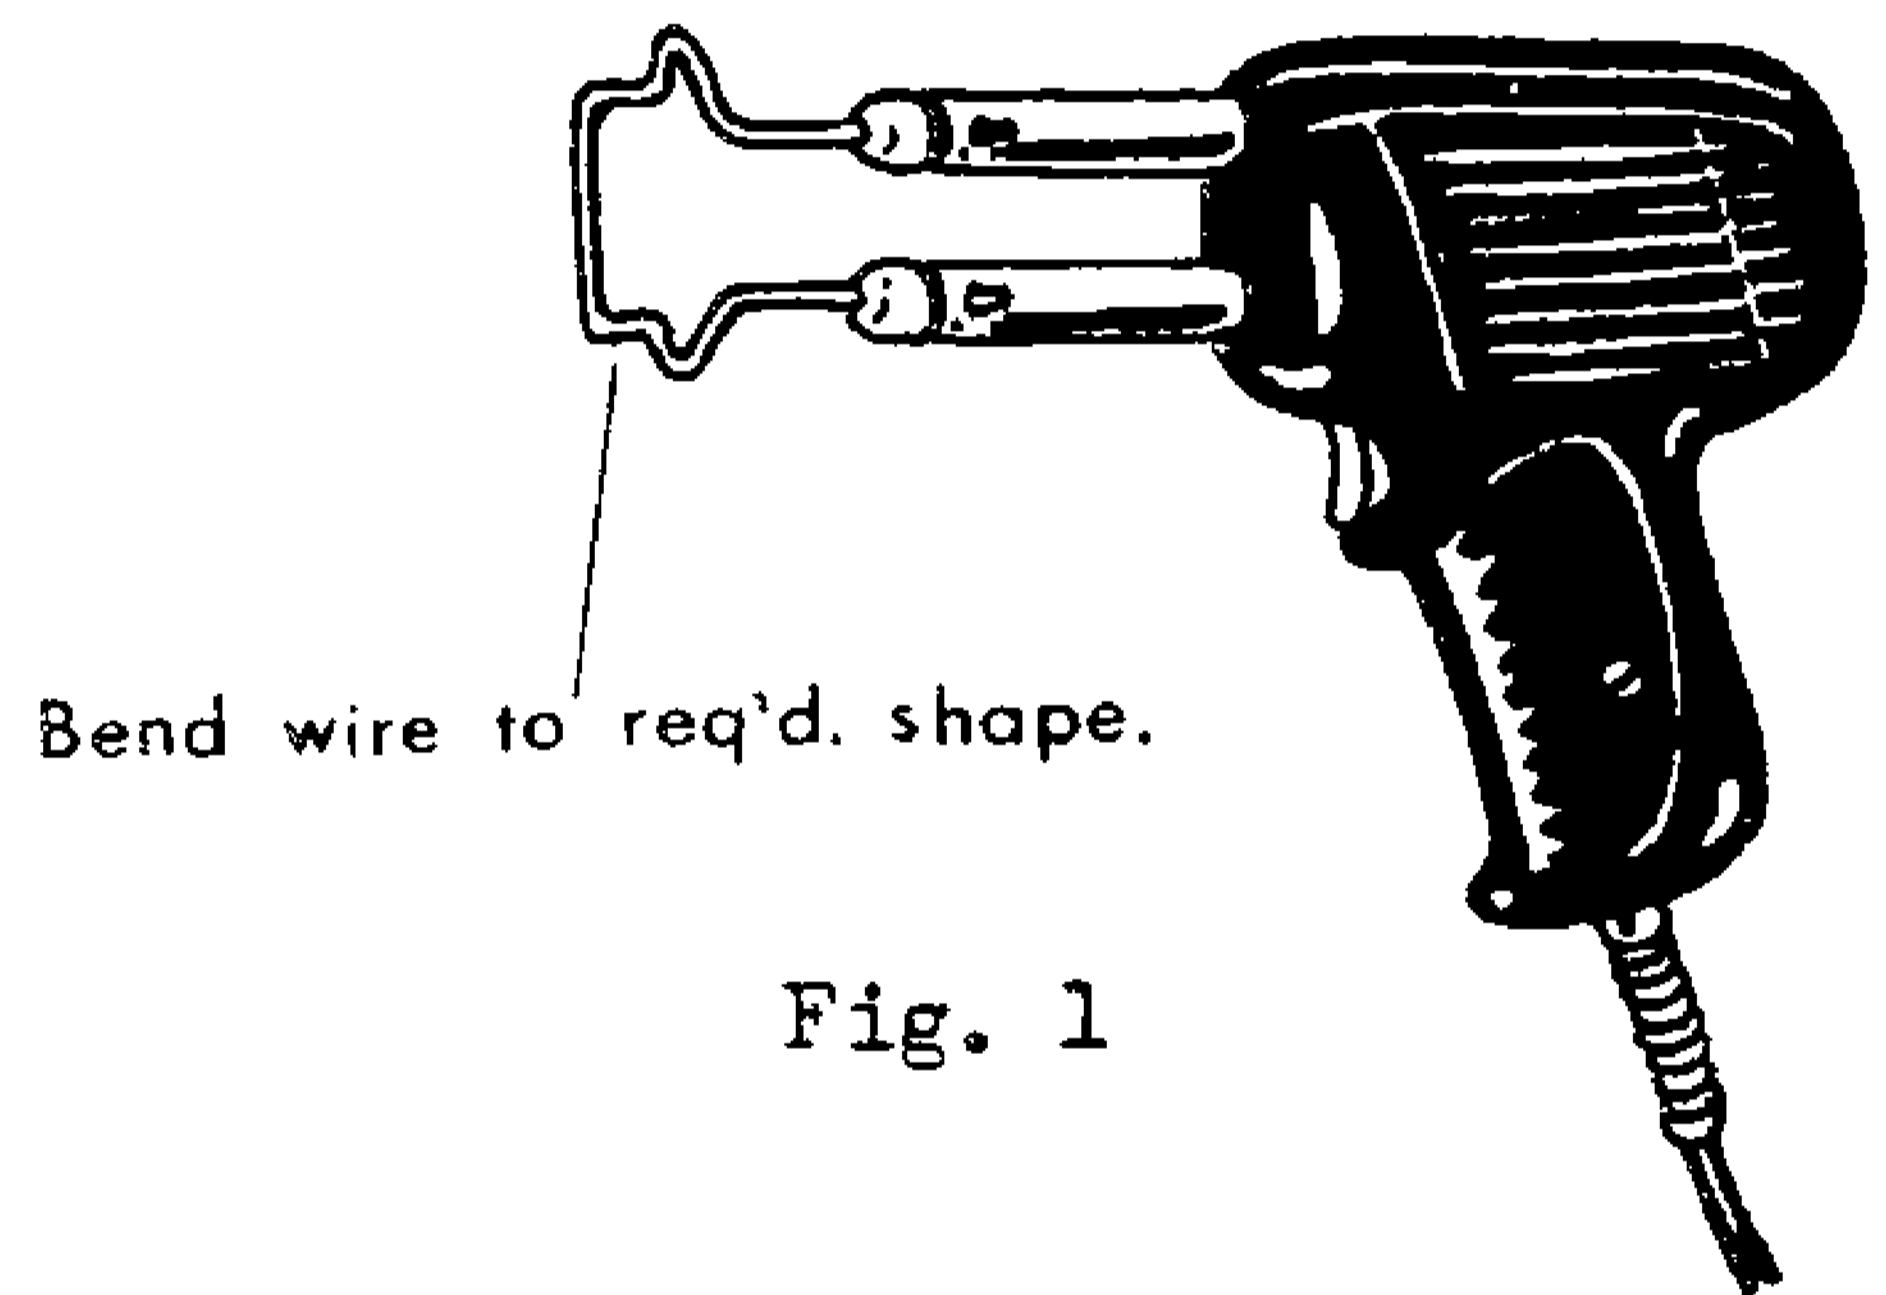
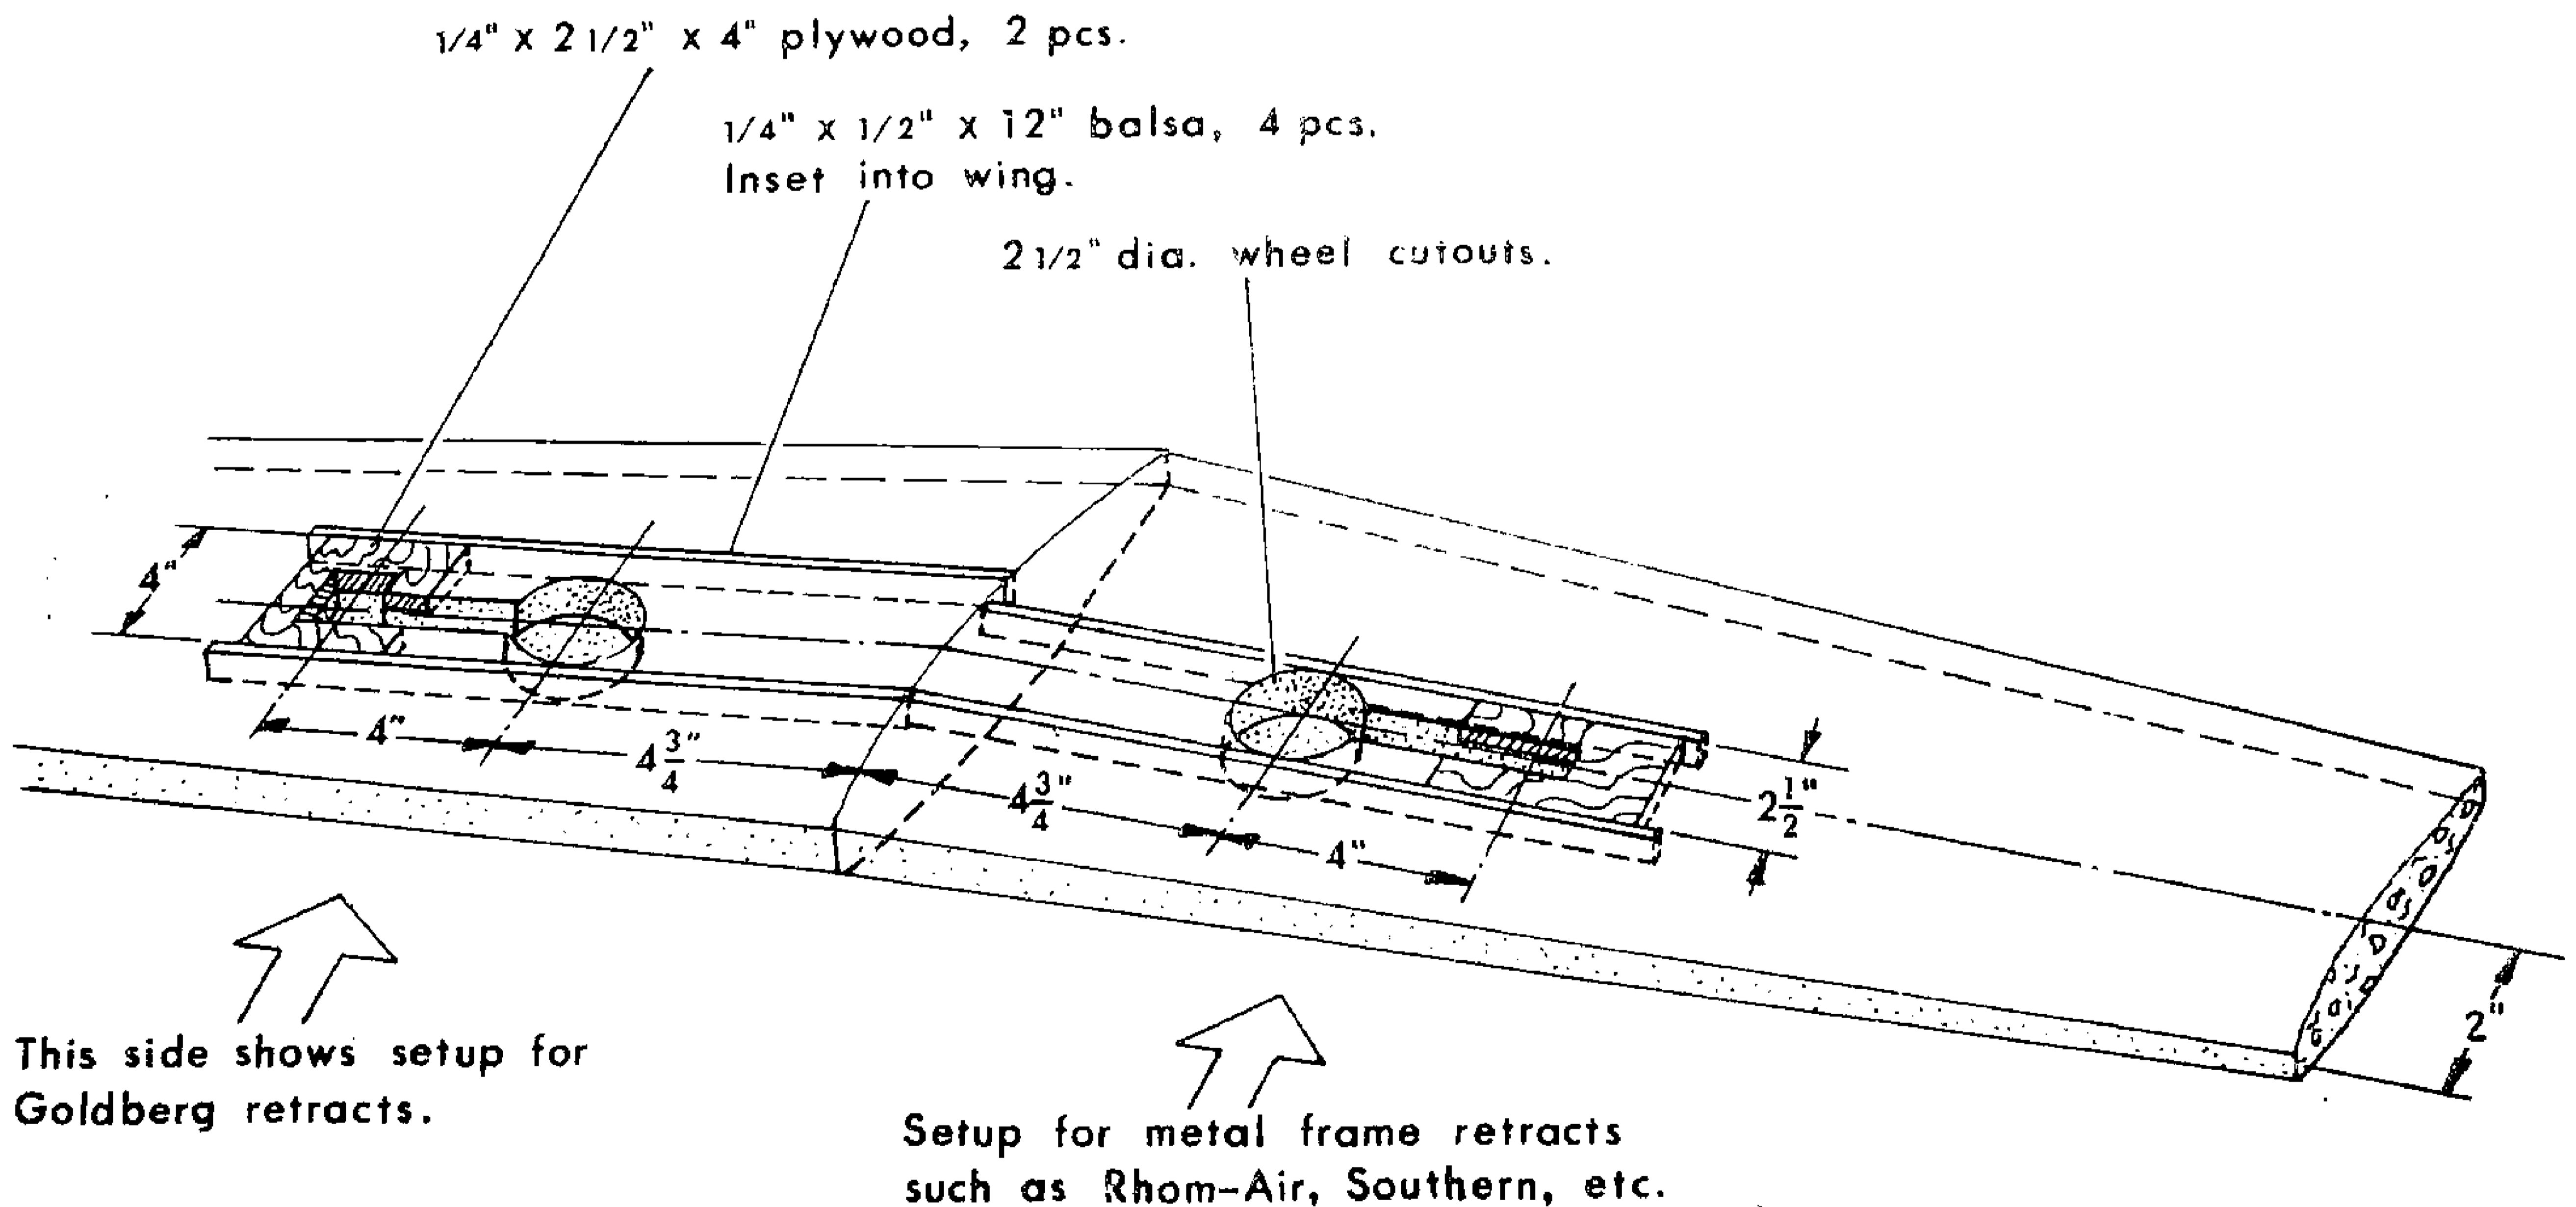

Fig. 1
Fig. 2
1. Lightly sand the wing cores and vacuum thoroughly. If retractable landing gear is to be installed, cut recesses in bottom of wing cores using the hot wire technique. Figure 1 illustrates how the cutting wire is bent and installed in a Weller-type soldering gun. Thin plywood templates should be used as a guide when cutting. Figure 2 gives dimensions for laying out the wheel wells and plywood gear mount as well as the spars. Use the set of dimensions that apply to the type gear you are using. **DO NOT JOIN THE WING CORES AT THIS TIME!**